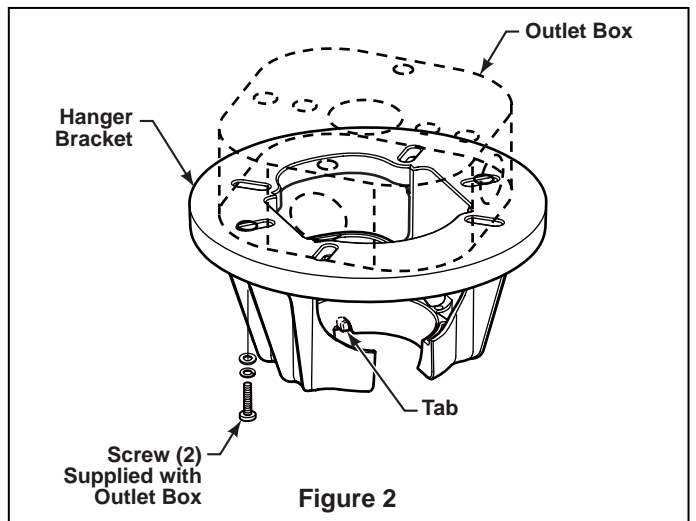
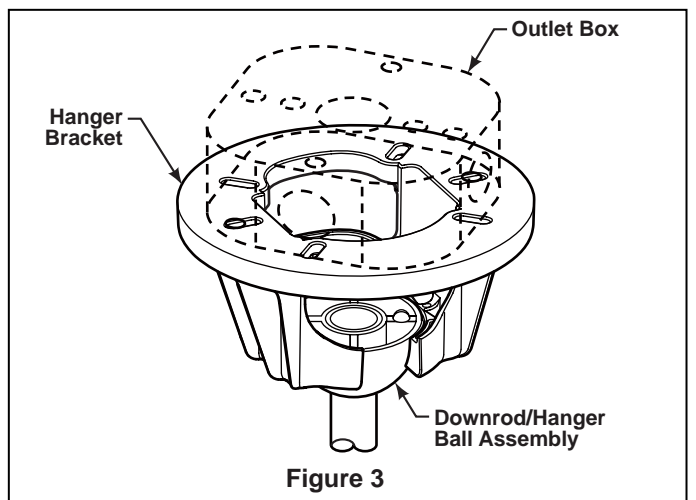

Figure 2
Figure 3
3. Loosen the two setscrews in the Downrod Support. Align the Clevis Pin holes in the Downrod with the holes in the Downrod Support. Install the Clevis Pin and secure with the Hairpin Clip. (Figure 2) Be sure to push the straight leg of the hairpin clip through the hole near the end of the clevis pin until the curved portion of the hairpin clip snaps around the clevis pin. The hairpin clip must be properly installed to prevent the clevis pin from working loose. Pull on the Downrod to make sure the clevis pin is properly installed.
4. Route wires through Motor Coupling Cover and through opening in Canopy Screw Cover and Canopy. Position Canopy Screw Cover and Canopy on fan shown with open side facing up. (Figure 3)
6. While pulling up on the hanger ball, securely tighten the two setscrews in the downrod support. (Figure 2)
7. Slide the Motor Coupling Cover down until it touches the top of the Housing. (Figure 3)
1. Securely attach the hanger bracket to the outlet box using the outlet box screws and washers supplied with the outlet box (Figure 2).
NOTE: Outlet box screws pass through slotted holes of the hanger bracket (Figure 2).
3. Carefully lift the fan and seat the downrod/hanger ball assembly on the hanger bracket that was just attached to the outlet box (Figure 3). Be sure the groove in the ball is lined up with tab on the hanger bracket (Figure 2).
- Slide Receiver Unit into the Hanger Bracket (Fig 2).
- Connect wires as indicated: (Figure 3)
(Including in the control).(Figure 2)
2. Securely attach Downlight Socket Plate Assembly to the Adapter Plate by tightening three screws provided with the fan. (Figure 2)
3. Install two Candelabra Bulbs (included - 60 watts max) in each of the sockets on the Downlight Socket Plate Assembly. (Figure 3)